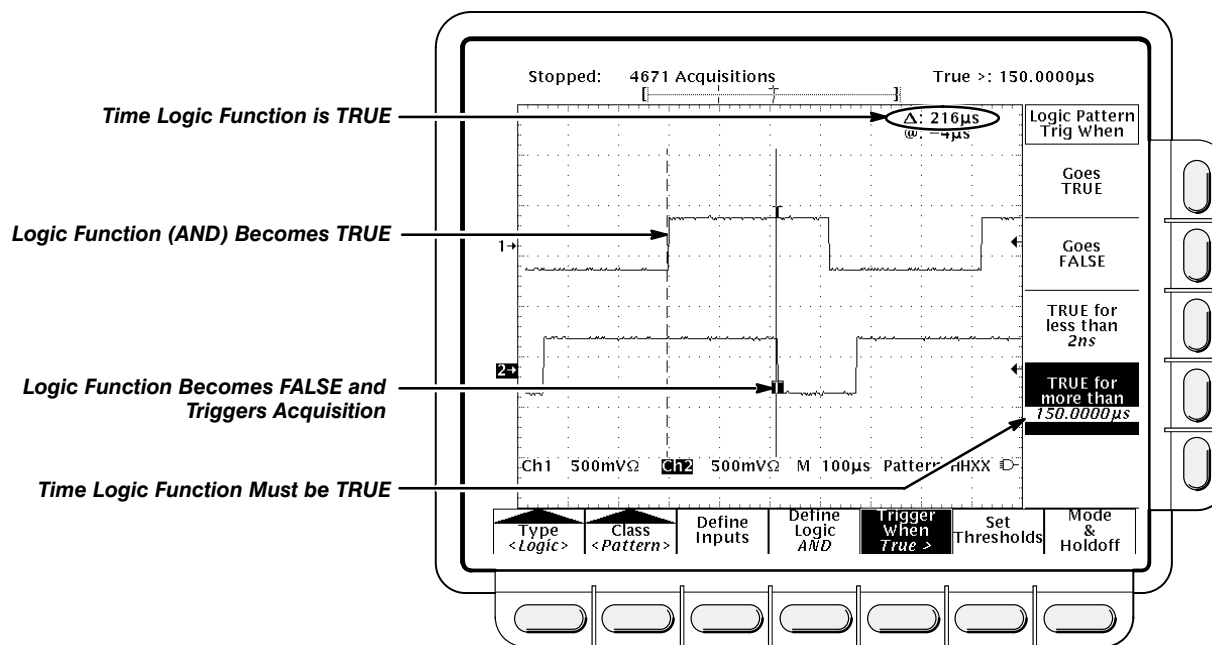

Figure 3-43: Logic Trigger Menu — Time Qualified TRUE
Note the position of the trigger indicator in Figure 3-43. Triggering occurs at the point the logic function you specify is determined to be true within the time you specify. The digitizing oscilloscope determines the trigger point in the following manner:
In Figure 3-43, the delay between the vertical bar cursors is the time the logic function is TRUE. Since this time is more (216 μ s) than that set in the **True for more than** menu item (150 μ s), the oscilloscope issues the trigger at that point, not at the point at which it has been true for 216 μ s.